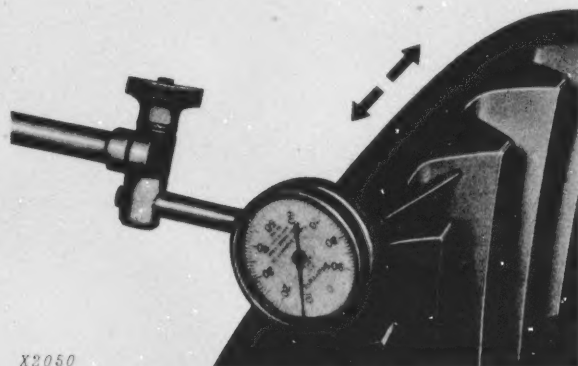

Fig. 33—Checking Backlash On Gear
Backlash is often adjusted to a specified reading on assembled gears (Fig. 33). Move ring gear in toward pinion to reduce backlash, or away from pinion to increase (Fig. 35, step 4).
4. Backlash between the ring gear and pinion is adjusted by transferring shims under the side quills. Backlash is checked at several points around the ring gear as shown in Fig. 33. To decrease the backlash, shims are transferred from the left to the right quill. To increase backlash, shims are transferred from the right to the left quill. The same shims must be added to the opposite quill as removed from the other one or the preload on the ring gear bearings will be changed.